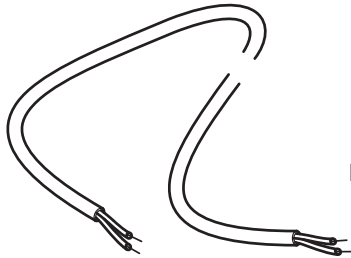

Fig. 10
19. On longer flue runs (over 4 metres) it will be necessary to extend the IFOS cable using the available cable extension (part no. 7724260, Fig. 10).